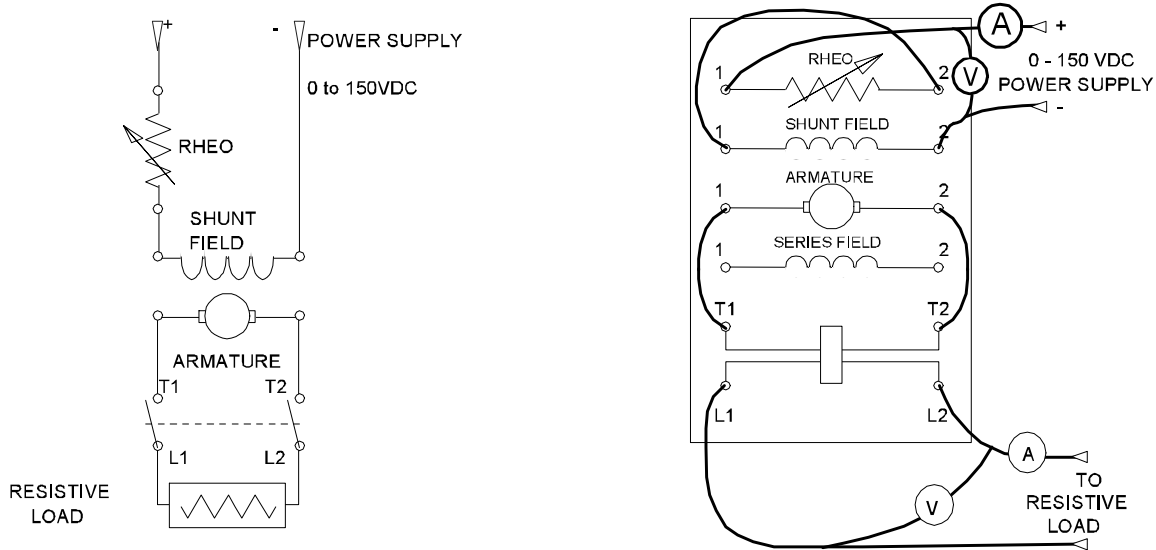

Figure 2. Dynamometer (Separately-Excited dc Generator) Connection.
1. Connect the dynamometer as shown in Figure 2. The input power is the shaft power plus the field power. Note that the output is connected to the resistive load box. Read the Hampden Manual instructions for this machine.